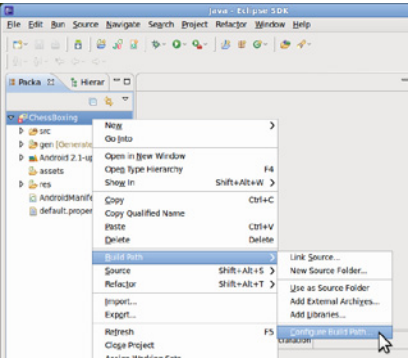
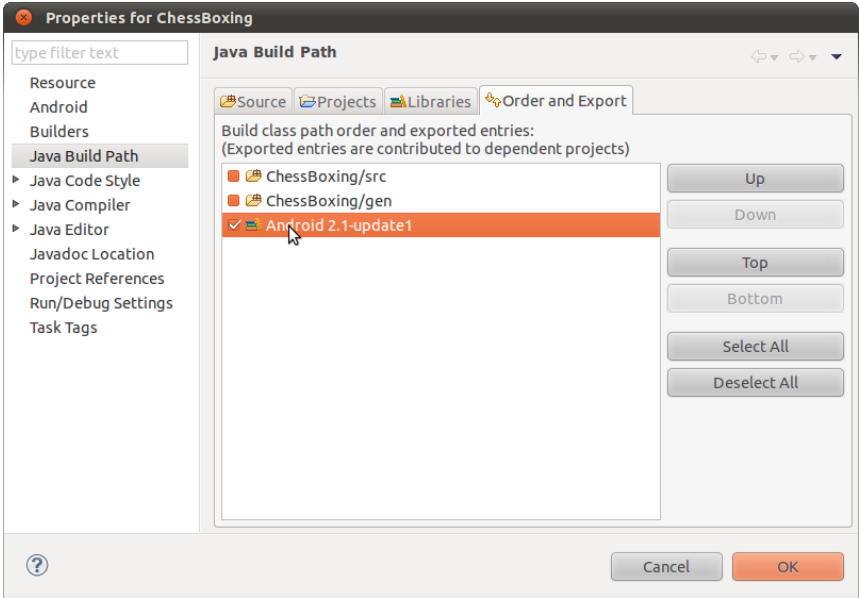

Figure 6-14. Configuring the Build Path for the Android version you’re using to compile the project
Figure 6-15. Choosing the Android version you prefer
- 6. Under Min SDK Version, pick the same level (7) that you picked for the build target.
- 7. Right-click the project (as shown in Figure 6-14), and choose Build →Configure Build Path. Go to the tab labeled “Order and Export” and select the Android library (for example, “Android 2.1-update1,” as shown in Figure 6-15). Click OK.